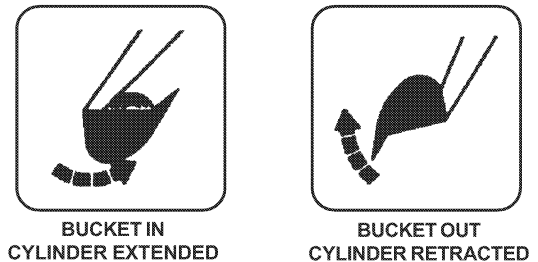

FIGURE 3.9
7. Operate bucket out (retracting cylinder) at full stroke of control and measure the time it takes for the bucket cylinder to reach the cushion stroke (if equipped). Record the time. See figure 3.9.
8. Operate the bucket in (extending cylinder) at full stroke of control and measure the time it takes for the bucket cylinder to reach the cushion stroke (if equipped). Record the time. See Figure 3.9.